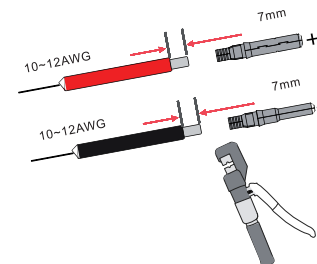

Figure 4.1-2 Crimp the terminal to the wire
**Setp 2.**Crimping metal terminals with crimping pliers,as shown in Figure 4.1-2.